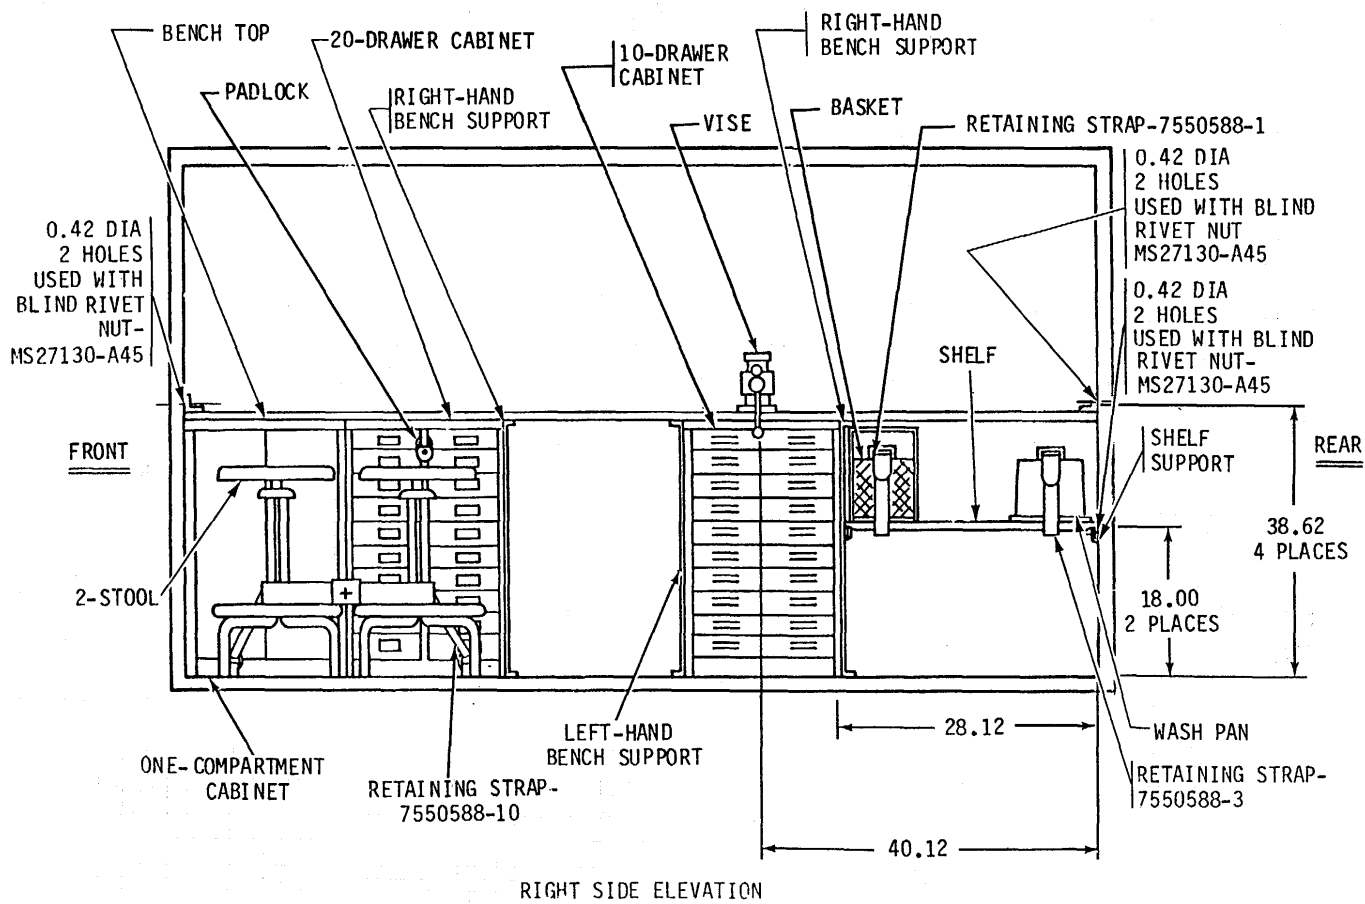

Figure 4. Components to be Mounted, Unit 1, 280, Right Side Elevation.
(14) Position front brace angle on top of bench top and against the front right end wall in accordance with figure 5 and over installed blind rivet nuts in accordance with figure 4. Secure to wall using two 5/16x 7/8in. pan head machine screws (MS35206-297) and two 5/16-in. lockwashers (MS35338-45). Using the installed front brace angle as a template, mark and drill two 0.25-in. diameter pilot holes into the bench top. Secure bench top to front brace angle using two 5/16x 1-in. hex head lag bolts (MS16992-520) and two 5/16-in. lockwashers (MS35338-45)
(15) Position rear brace angle on top of bench top and against the rear right end wall in accordance with figure 5 and over installed blind rivet nuts in accordance with figure 4. Secure to wall using two 5/16x 7/8in. pan head machine screws (MS35206 297) and two 5/16-in. lockwashers (MS35338-45). Using the installed rear brace angle as a template, mark and
(18) Secure basket (7290-00-7540843) to shelf, using 72-in. retaining strap (7550588-1) in accordance with figure 4
(19) Secure wash pan (4940-00795-3595) to shelf using 48-in. retaining strap (7550588-3) in accordance with figure 4
(21) Secure padlock (5340-00-6821508) to hasp on 20-drawer cabinet in accordance with figure 4.